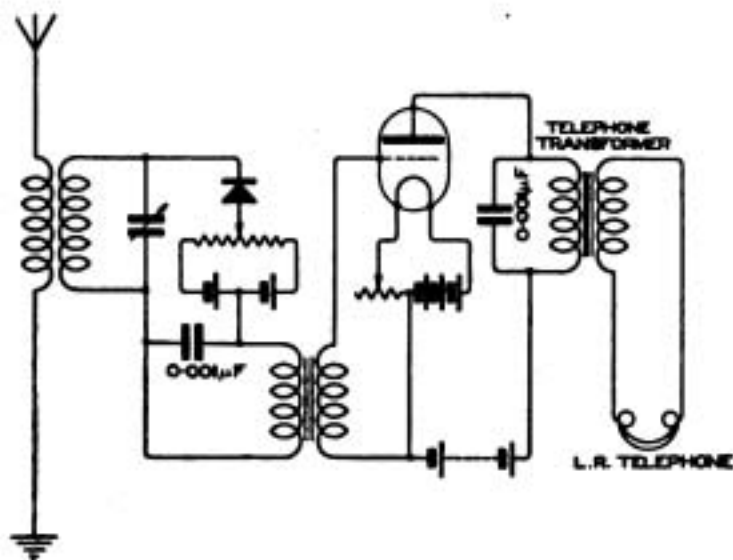

Fig. 1.
R.L.T. (Oxford)—(1) Yes.
(2) Use a valve as a note magnifier, and arrange as shown in diagram. (Fig. 1.)
(3) V24; 6 volts on filament, 30 volts on the anode. R, 4–6 volts on the filament, 50 volts on the anode.